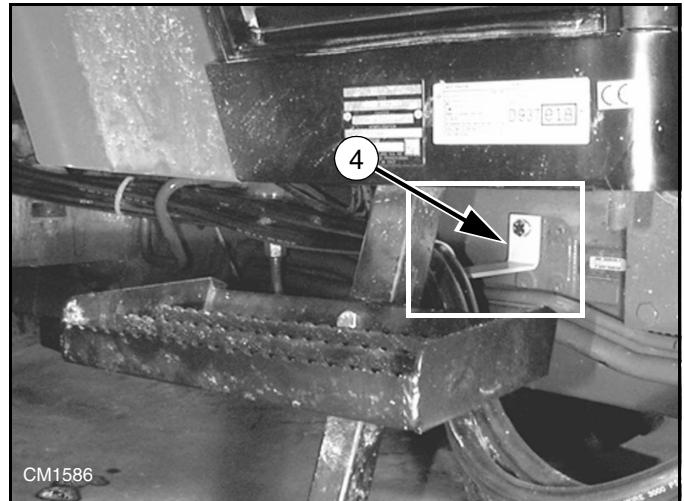

Figure 14. Hose Support Bracket
2. Attach hose support (4) to right side of transmission housing using cap screw (6) and lock washer (7), Figure 14.